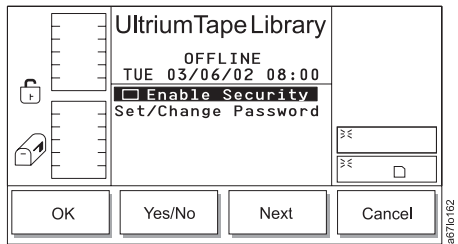

Figure 14-53. Secure Dialog
- Press the button below the **Secure** softkey. The Secure Dialog displays (see Figure 14-53).